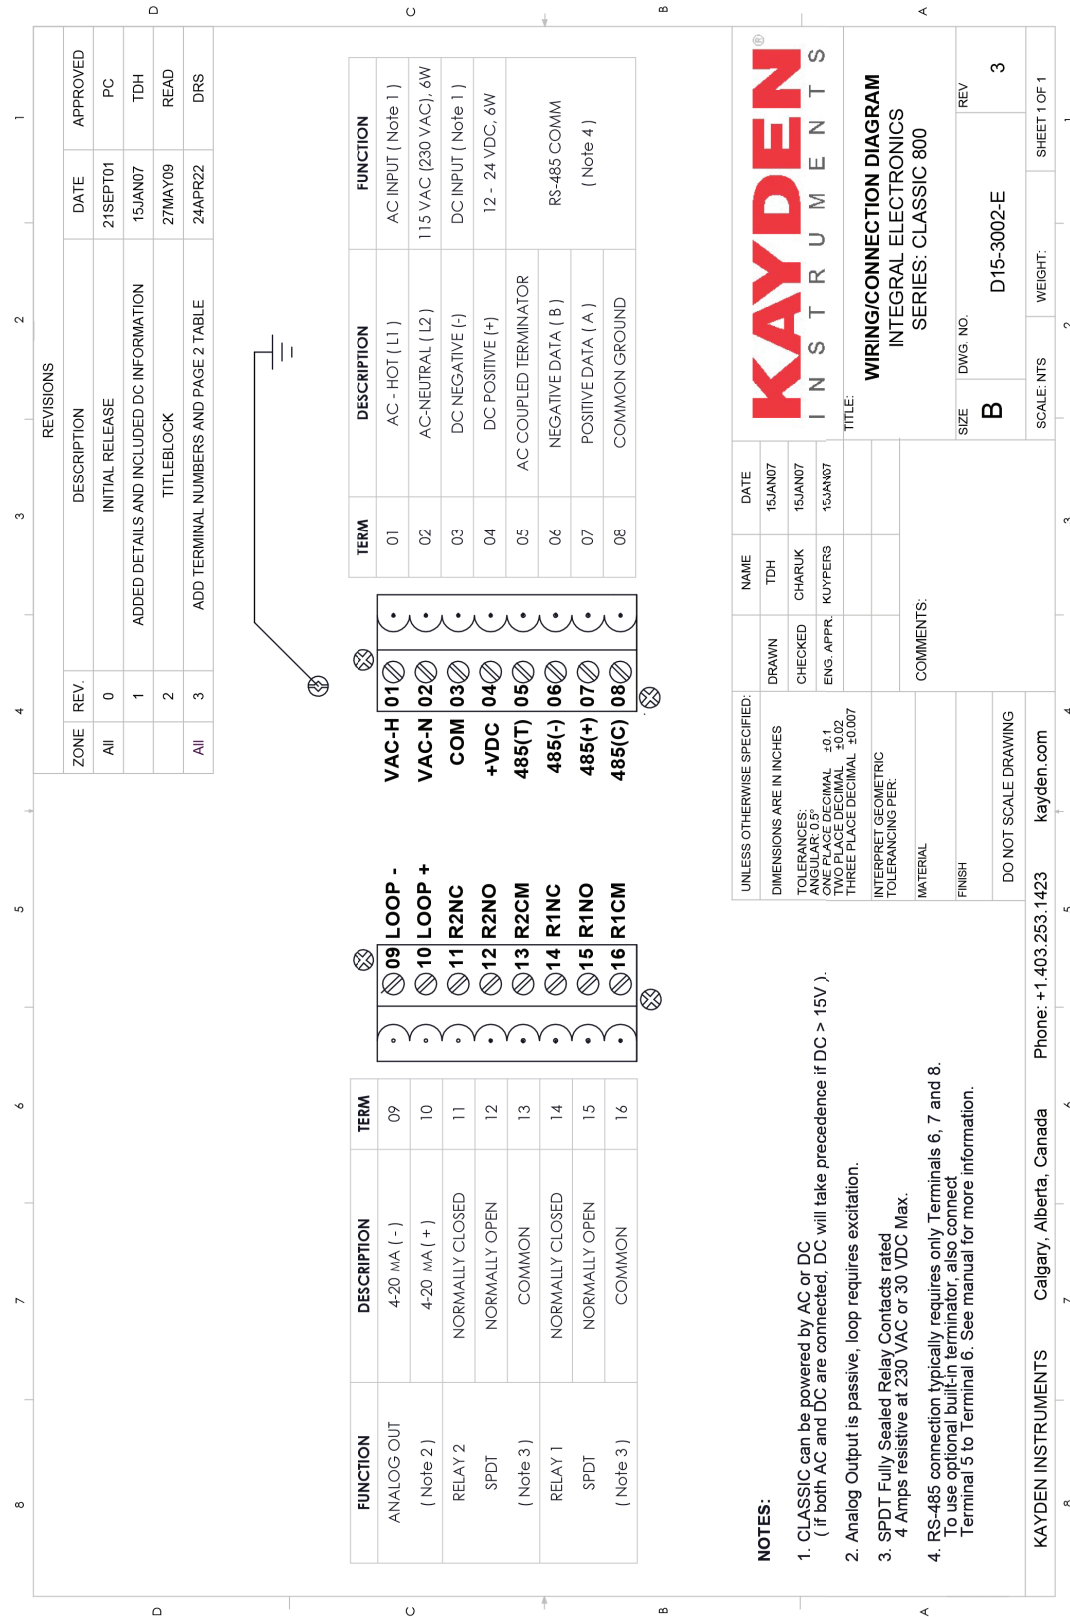

Figure 15 - CLASSIC 800 Electronics Module Terminal Wiring Diagram
- For DC Power, connect the positive voltage to +VDC and the common or negative to COM. (see Figure 15 & 16)
- The CLASSIC 800 features two (2) fully sealed independent relays, which may be wired for Normally Closed (NC) or Normally Open (NO) operation. Relay 1/Relay 2 are connected as shown in Figure 15.
- The CLASSIC 800 features a fully isolated 4-20 mA Analog Output, which can be wired in a 3-Wire or 4-Wire configuration as shown in Figures 15 & 16.
Notes: For more information see Figures 15 & 16.